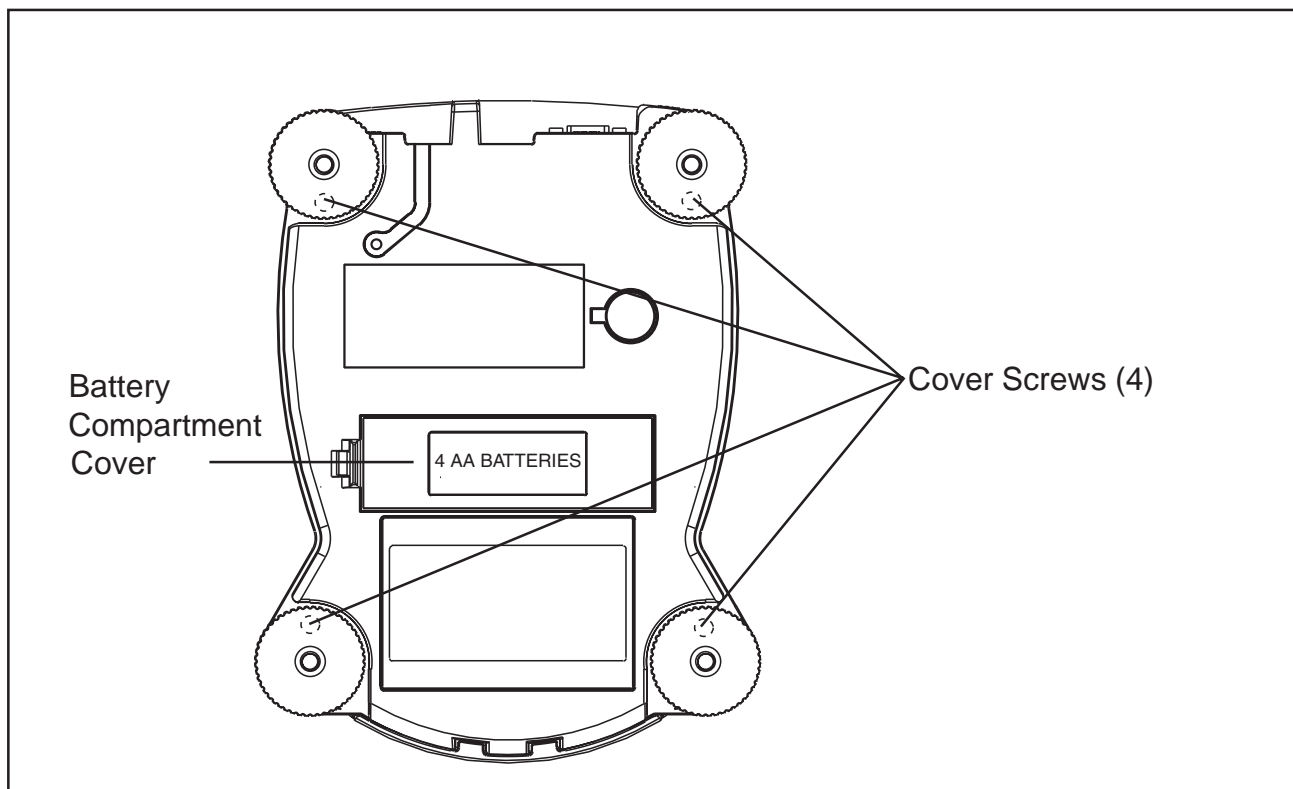

Figure 3-2. Bottom of Balance.
7. If a battery is being used, hold the balance on its side without touching the Load Cell Cone. Remove the Battery Compartment Cover as shown in Figure 3-2. Remove the 4 AA batteries from inside the battery compartment and replace the Battery Compartment Cover.
9. Remove the 4 cover screws. The screws are in deep recessed holes. See Figure 3-2.